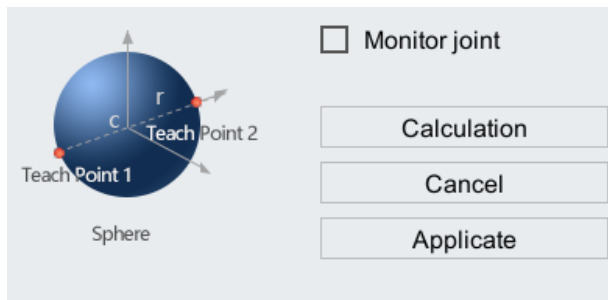

Figure 6-64 Contents of model of ball working zone
If you want to uniquely determine the working zone of the ball, you need to calculate the teach points 1, 2 on the ball. As shown in Figure 6-64, the distance between the two points is the diameter of ball (2r), and the center point between the two points is the center of ball (c). The working zone of the ball can be also determined through teaching method and manual input method.
Step3. After the teaching of "Point 1" and "Point 2", click <Calculate> button shown in Figure 6-64 to automatically calculate the center of ball and the radius of ball. Click <Applicate> button to complete the zone setting.